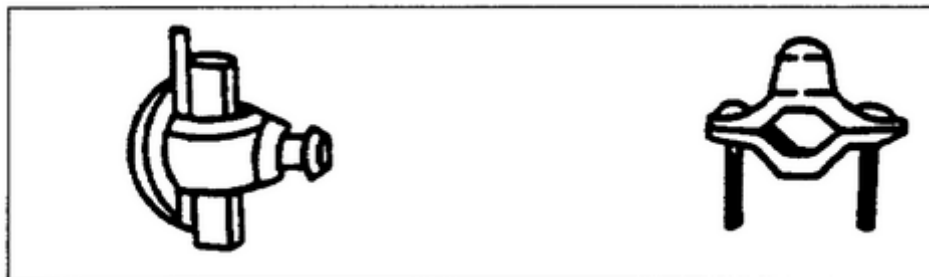

Figure 1-11. Ground clamps
c. Ground clamps (Figure 1-11) hold the ground conductor and the grounding rod together without losing conductivity when exposed to weather and abuse. Ensure that the ground conductor is opposite to the screw-on clamp. The upper end of the grounding rod must be flush with or below ground level unless the connection is protected against physical damage.